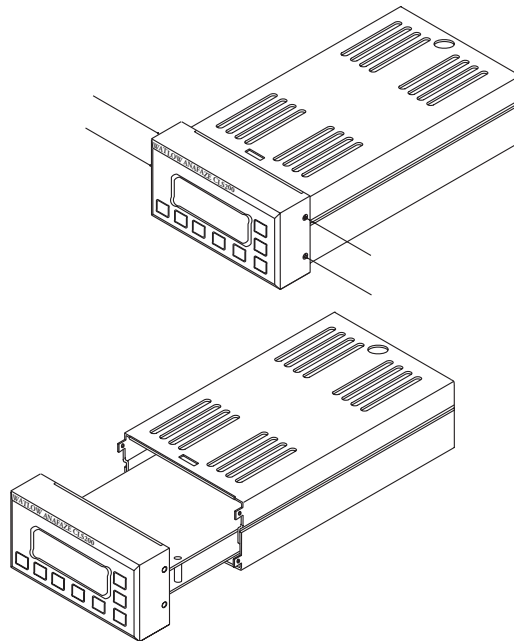

Figure 9.1 *Removal of Electronics Assembly from Case*
4. Remove the electronics assembly from the case, as shown in *Figure 9.1*.